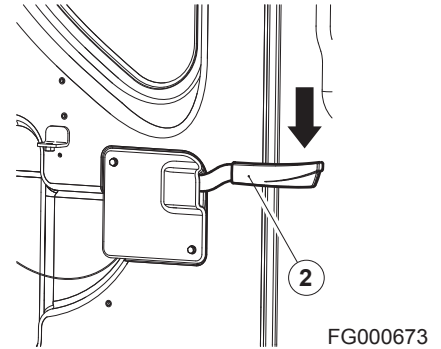

Figure 138
2. To release door from side of cabin, push latch lever (2, Figure 138) down. The latch lever is to the left of operator's seat.